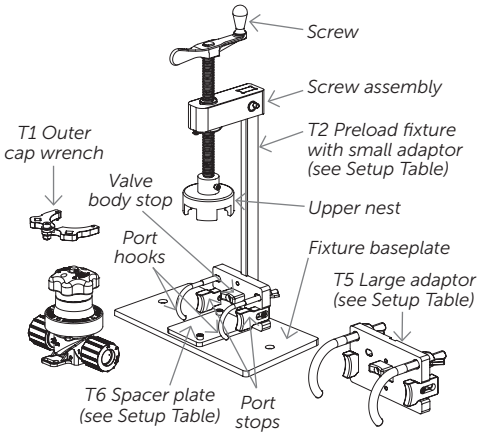

Figure 2.
2. For valves that can be removed from the line, mount the preload fixture (T2) into a vise or fasten to work bench. For valves that are installed in-line and cannot be removed, have one person hold the fixture while another operates the fixture and wrench in steps 3–6 (see Figure 2). Remove screw assembly from the preload fixture (T2).